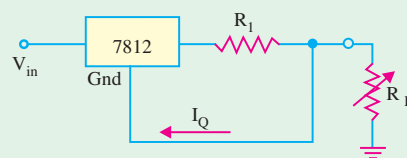

Fig. 56.33
4. Fig. 56.33 shows the circuit of a current regulator. What value of R_1 is necessary to provide a constant current of 1 A. (12 Ω)